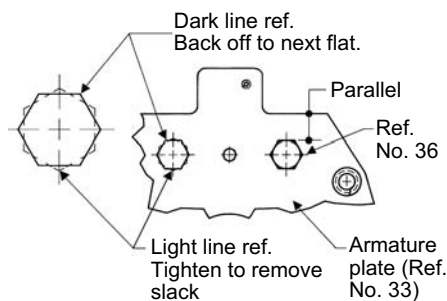

Figure 10
**NOTE:** Screws (Ref. No. 36) should be tightened to remove slack only. Then back off, counterclockwise on screw so that the next flat on screw is parallel with edge of the armature plate (Ref. No. 33) (See Figure 10).